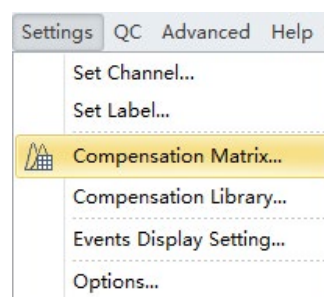

Figure 25. Setting submenu showing the Compensation Matrix command.
- c. Open the Compensation Matrix Window (Figure 25).